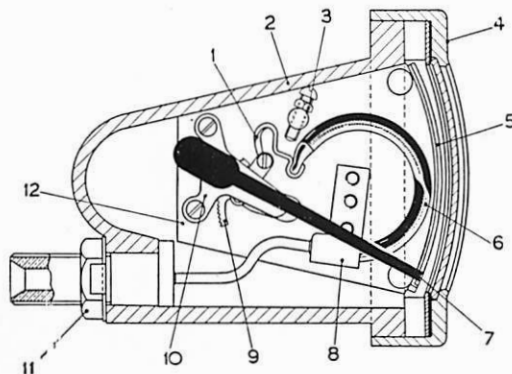
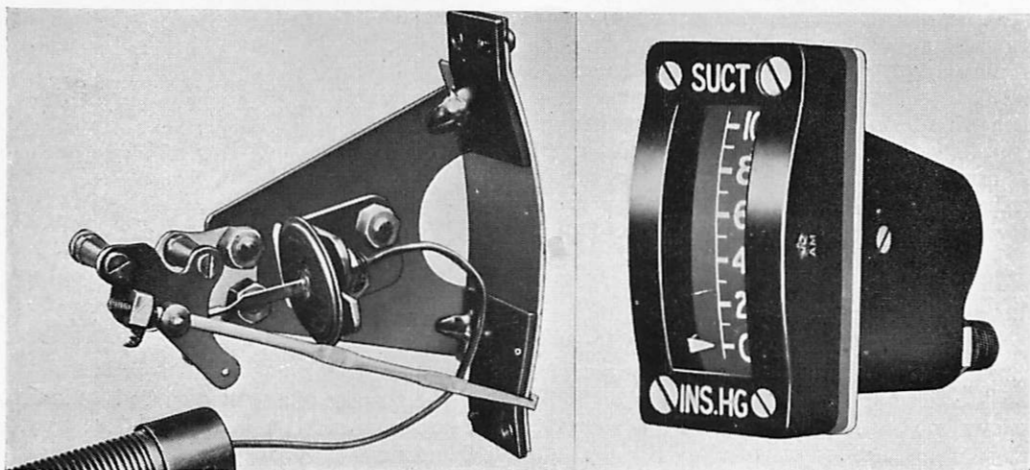

Fig. 4. Bourdon Tube Pressure Gauge.
Fig. 6. Capsule Type Suction Gauge.
14. Fuel and oil pressure gauges are usually transmitting types. In some versions the pressure sensitive element is a Bourdon tube, while bellows are used in others. Fig. 4 shows a gauge using a Bourdon tube as the pressure
ments. It may be of the Bourdon tube type, similar to the pressure gauge shown in Fig. 4, or of the capsule type shown in Fig. 6.